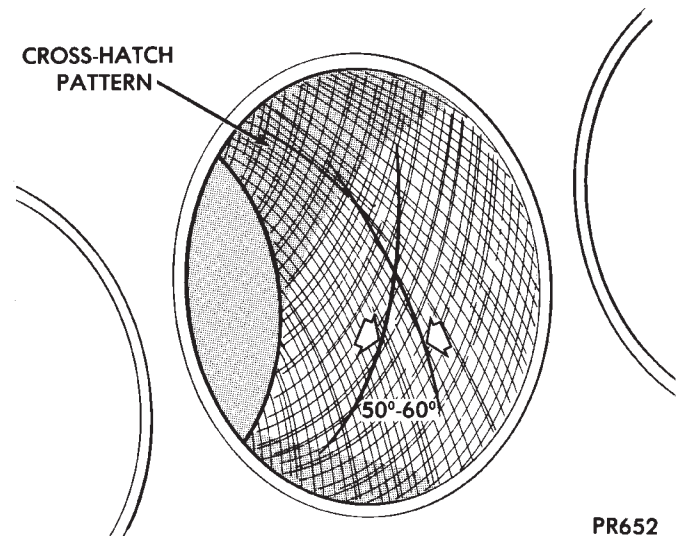

Fig. 2 Cylinder Bore Cross-Hatch Pattern
(2) Deglazing of the cylinder walls may be done using a cylinder surfacing hone, Tool C-3501, equipped with 280 grit stones, if the cylinder bore is straight and round. 20-60 strokes depending on the bore condition, will be sufficient to provide a satisfactory surface. Inspect cylinder walls after each 20 strokes, using a light honing oil. **Do not use engine or transmission oil, mineral spirits or kerosene.**
(3) Honing should be done by moving the hone up and down fast enough to get a cross-hatch pattern. When hone marks **intersect** at 50-60 degrees, the cross hatch angle is most satisfactory for proper seating of rings (Fig. 2).